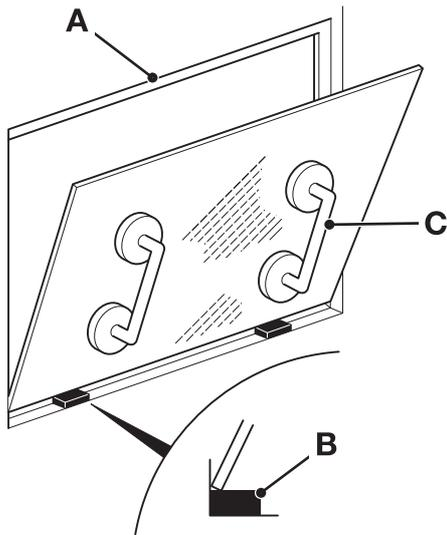

Fig 9.
- 1 Make sure that the new glass correctly fits the frame aperture A. → Fig 9. (□ B-31).